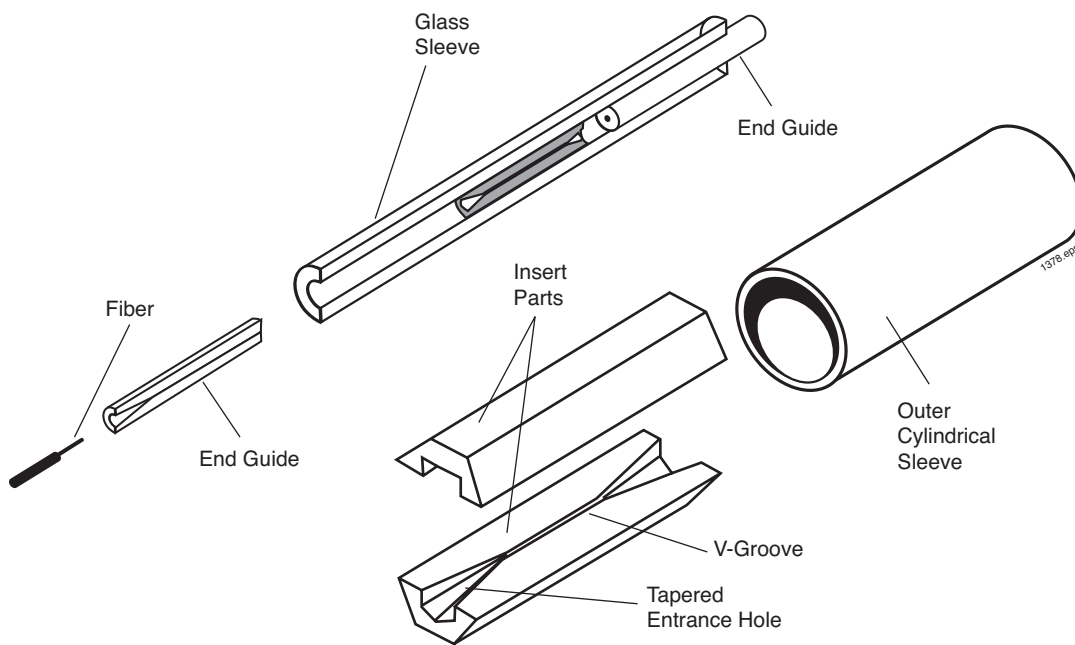

Figure 9. Drawing of a basic elastomeric splice.
An elastomeric splice contains two elastomeric (rubber like) inserts inside a glass sleeve as shown in Figure 9. A V-groove is molded into one insert, while the other has a flat surface. The triangular-shaped space formed where the two insert halves mate is slightly smaller in dimension than the diameter of the fibers being joined. When the fiber ends are pushed into the inserts the elastomer compresses equally on each side in contact with the fiber. As a result, the fibers are aligned on their center axes. Even fibers with different diameters are centered along their respective axes, maximizing the overlap of their end faces. The fibers are usually held in place using an adhesive cured with ultraviolet (UV) light. As in the capillary splice an index matching gel is often applied to minimize Fresnel losses. Many manufacturers include the gel within the splice body, which reduces this assembly step for the technician.